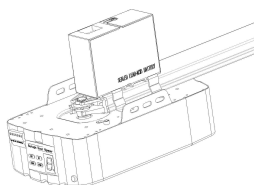

Figure 16
STEP2 (Fig.16)
Join the battery to opener, find the Fig.16.